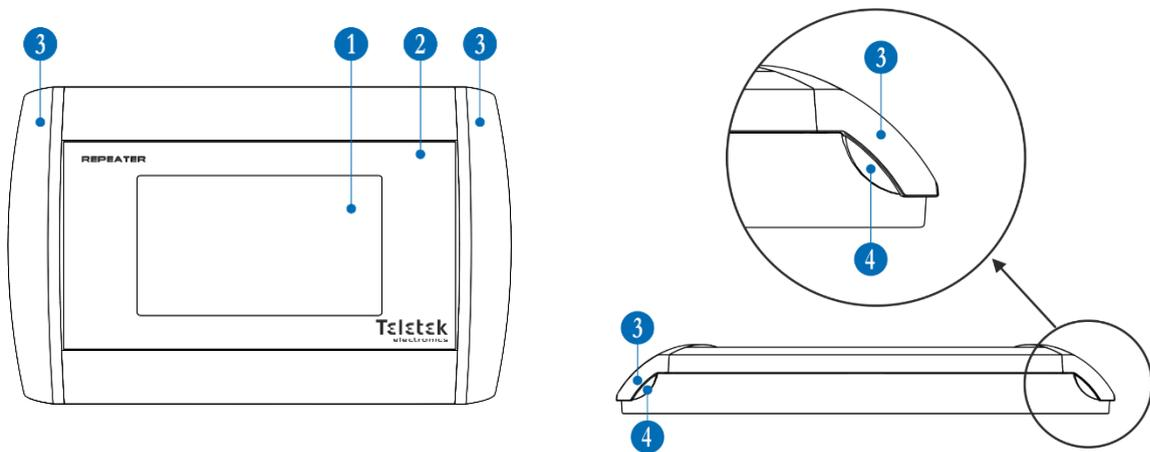

Figure 2
• The main elements of the enclosure box are presented in Figure 2.